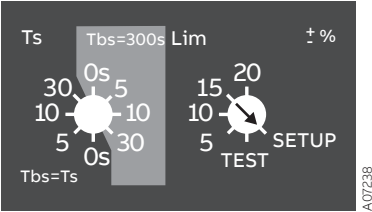

Figure 6.8 Setting of SETUP mode with Lim rotary switch in automatic control unit OMD100
2. Choose SETUP mode with Lim rotary switch according to the Figure 6.8